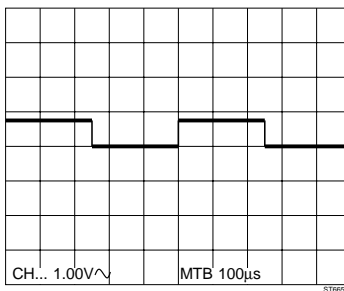

Figure 3.8
- Check for a display as shown in fig. 3.8.